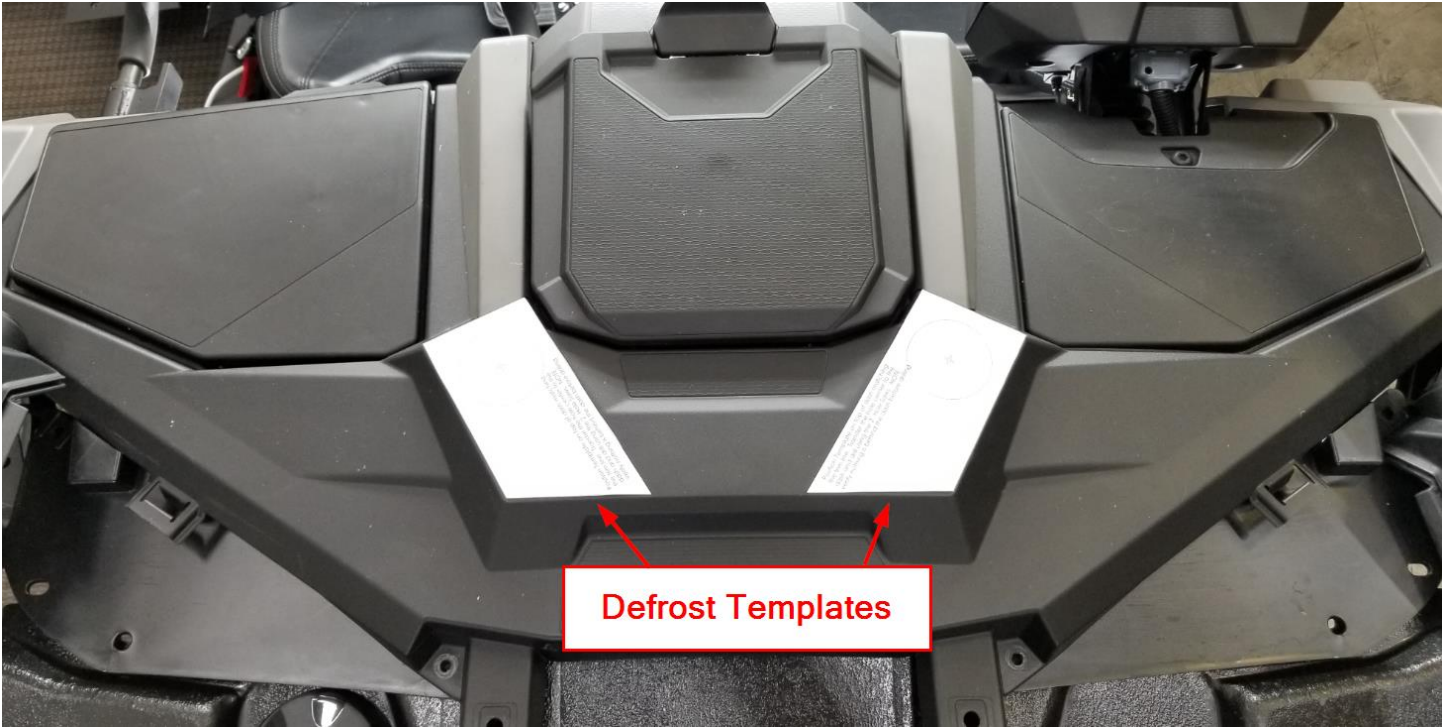

Figure 1
- a. Using the Defrost Template, cut out the two templates and position them as shown in Figure 1. Transfer the hole centers to the plastic dash and drill defrost vent holes using the included 54mm Hole Saw and Pilot Bit. Deburr as necessary.